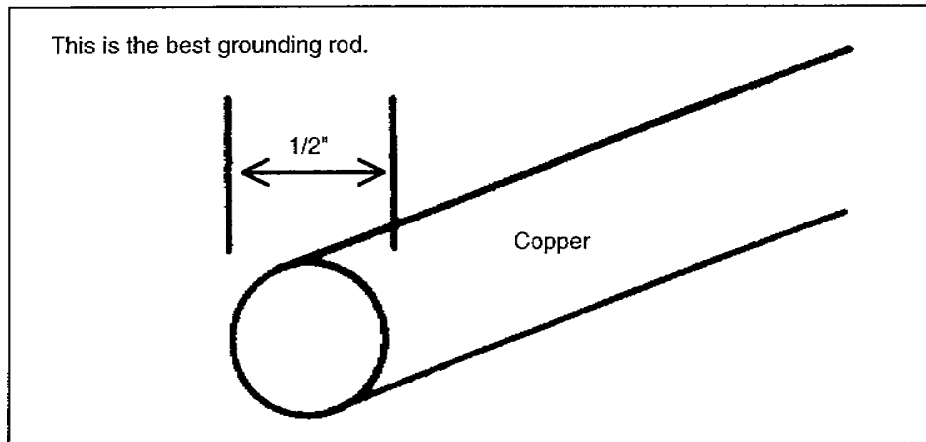

Figure 1-2. Copper grounding rod
- a. The best grounding rod (electrode) is made of copper (nonferrous metal) and is at least 1/2 inch in diameter (Figure 1-2).